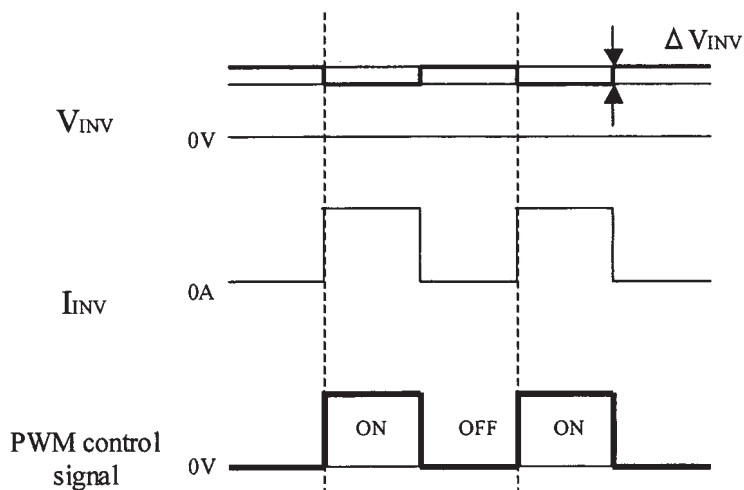

Fig.5 Brightness control voltage.
- c) Brightness control voltage is switched for "ON" and "OFF", as shown in Fig.5. Voltage difference generated by this switching, ΔV_{INV} , may affect a sound output, etc. when the power supply is shared between the inverter and its surrounding circuit. So, separate the power supply of the inverter circuit with the one of its surrounding circuit.